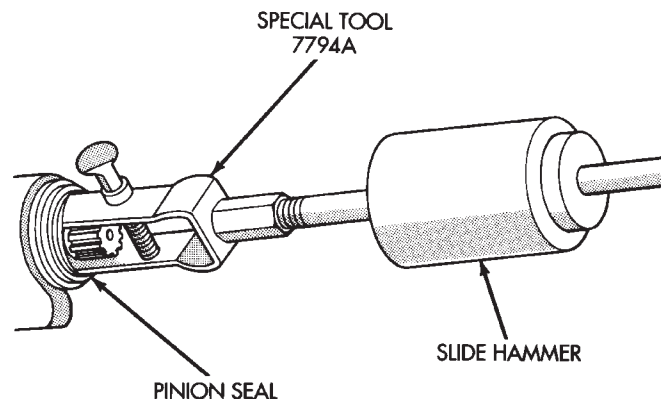
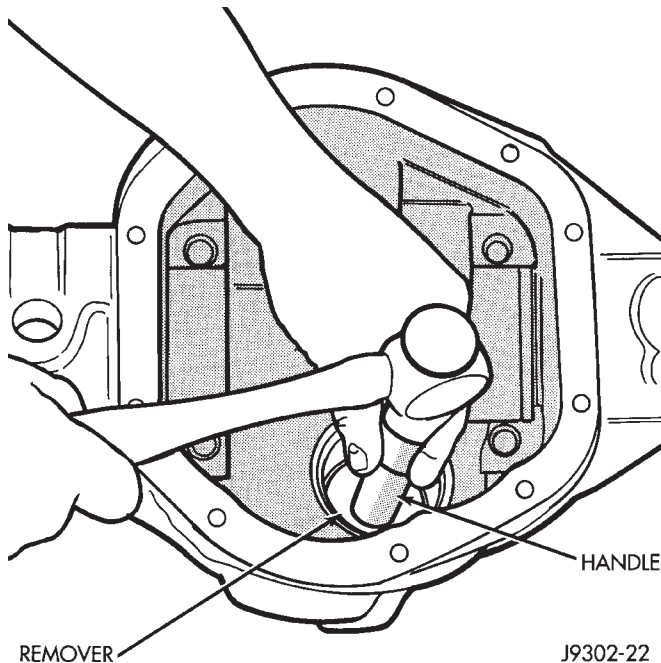

Fig. 41 Seal Removal
Fig. 42 Front Bearing Cup Removal
(7) Use Remover 7794-A and slide hammer to remove the pinion shaft seal (Fig. 41).
(8) Remove oil slinger, if equipped, and front pinion bearing.
(9) Remove the front pinion bearing cup with Remover C-4345 and Handle C-4171 (Fig. 42).